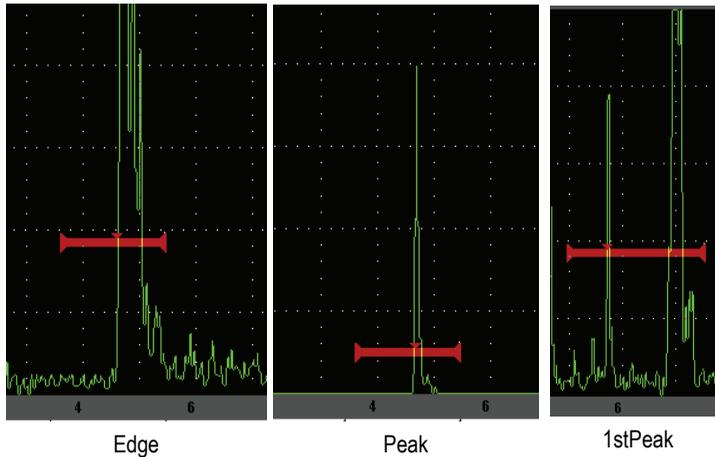

Figure 2-11 Measurement trigger in Edge, Peak, and 1stPeak modes
- **Peak:** Acquires measurement readings based on the highest peak within the gated region (does not have to cross the gate threshold) [see Figure 2-11 on page 42].
- **1stPeak:** Acquires measurement readings based on the first peak to cross the gate threshold (level) [see Figure 2-11 on page 42].
- **Edge:** Acquires measurement readings based on the position of the first crossing point of a gated signal (see Figure 2-11 on page 42).